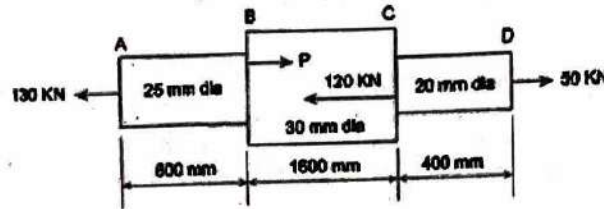

figure 1 / चित्र 1
- Q2 (a) Find the value of P and the change in length of each component and the total change in length of the bar shown in figure 1 below. (9)